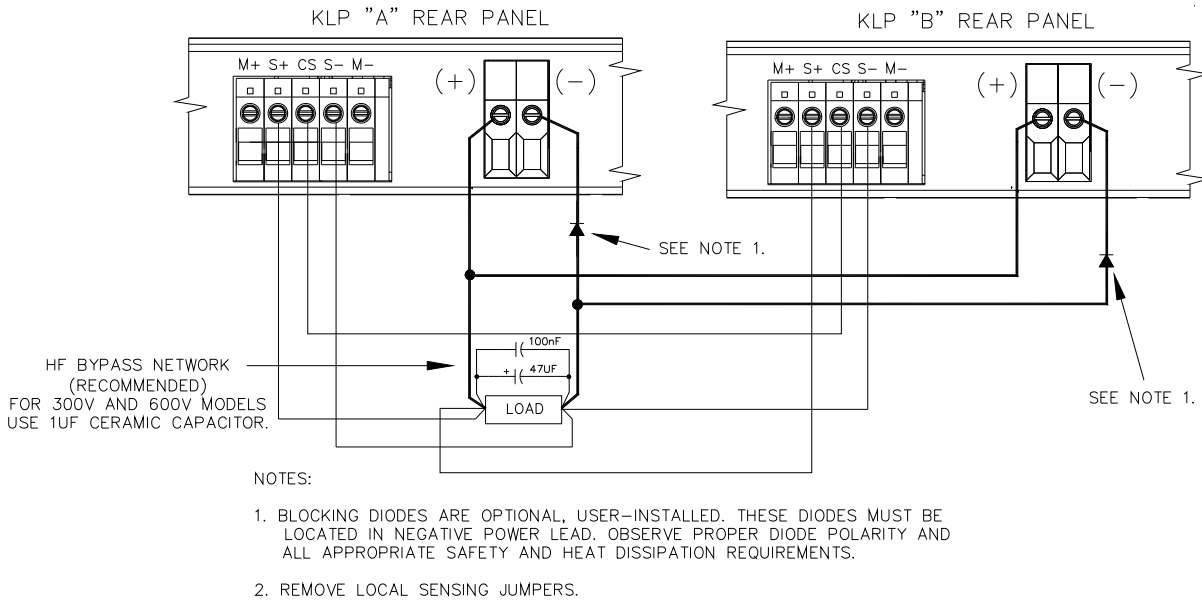

FIGURE 2-5. PARALLEL CONNECTIONS USING REMOTE SENSING
Identical KLP power supply models may be connected in parallel in order to provide increased output current to a common load (see Figure 2-5). This permits the user to obtain significantly higher load ratings than for a single KLP power supply. The number of power supplies required is determined by dividing the required load current by the current rating of the applicable KLP model, and rounding up to the next whole number when necessary. KLP power supplies utilize active current sharing circuitry to distribute the load current equally among the paralleled units. When operating KLP power supplies in any parallel configuration, load sharing **must** be implemented among the paralleled modules. Kepco strongly recommends that parallel applications employ master/slave control (available on standard models only) as described in PAR's 2.7.8 and 3.2.14.
- For remote error sensing the same procedure is followed as for local sensing, except that the local error sense jumpers are removed from the first power supply as well, and a tightly-twisted wire pair is connected from the S+ and S- terminals of the first power supply to the load regulation point. Install the HF bypass network indicated in Figure 2-5 across the error sense termination points.